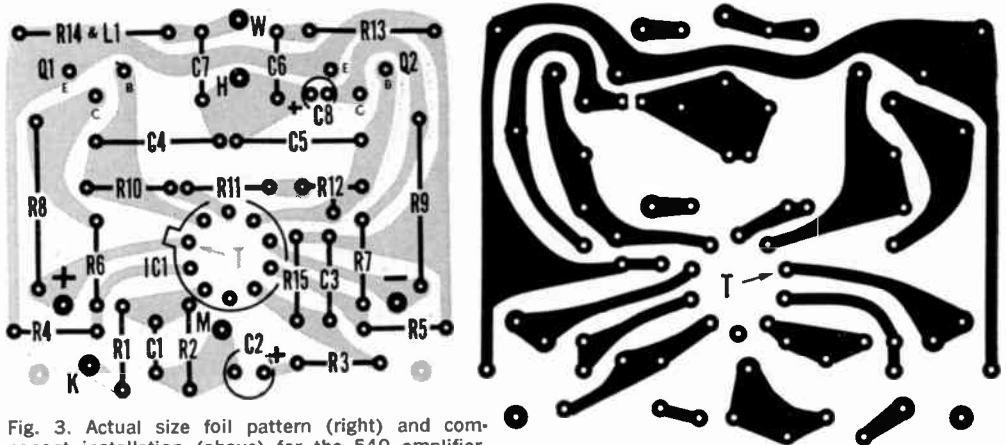

Fig. 3. Actual size foil pattern (right) and component installation (above) for the 540 amplifier.
**Construction.** A single-channel power amplifier can be built on a printed circuit board as shown in Fig. 3. Note the position of the tab on the integrated circuit and the polarities of the electrolytic capacitors. Use a low-power soldering iron and fine solder to make all connections. The two power transistors (*Q1* and *Q2*) are mounted with their metal sides against the mounting surface. The board can be mounted using nylon clips and screws through the transistors. Use a mica washer covered on both sides with heat sink compound to avoid electrical contact between the transistors and the metal chassis.